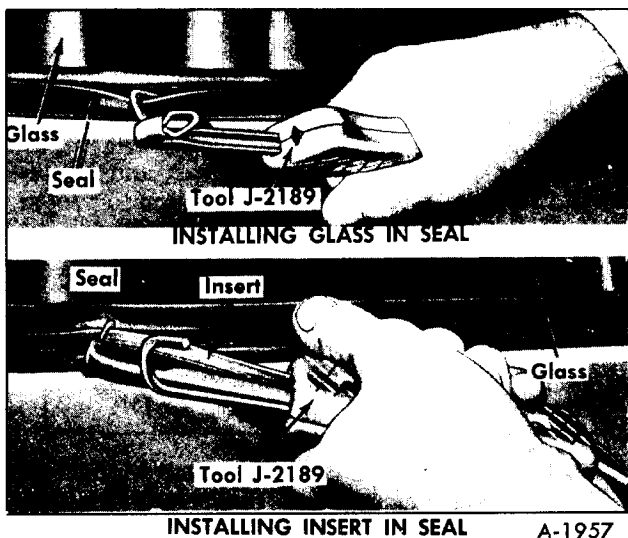

Figure 3—Positioning Seal and Insert
### INSTALLATION (fig. 3)
1. Reposition rubber seal on opening flange. Raise new glass to outside of seal; then with hook end of installer tool (J-2189) in glass groove of seal as shown in figure 3, move tool around glass to force outer lip of seal over edge of glass.
2. Thread end of rubber insert through handle and loop of installer tool (fig. 3). Push tool loop and end of insert into groove of seal. Feed in rubber insert, while proceeding around window. Use a hitching movement of tool to avoid elongating insert. If new insert is being used, cut off insert allowing sufficient overlap for a tight joint; then butt into groove.
1. Reposition rubber seal on opening flange. Raise new glass to outside of seal: then with hook end of installer tool (J-2189) in glass groove of seal as shown in Figure 3, move tool around glass to force outer lip of seal over edge of glass.
2. Thread end of rubber insert through handle and loop of installer tool (figure 3). Move installer to middle of insert. Starting at top-center of rubber seal push tool loop and insert into seal groove. Feed in rubber insert, while proceeding around one side of window. Use a hitching movement of tool to avoid elongating insert, position emergency exit pull ring on rubber insert at top center of window. Thread other end of rubber insert through handle and loop of installer tool. Push tool loop and insert into seal groove and position pull ring in place. Feed in rubber insert, while proceeding around other side of window. If new insert is being used, cut off insert allowing sufficient overlap for a tight joint; then butt into groove at bottom of window.